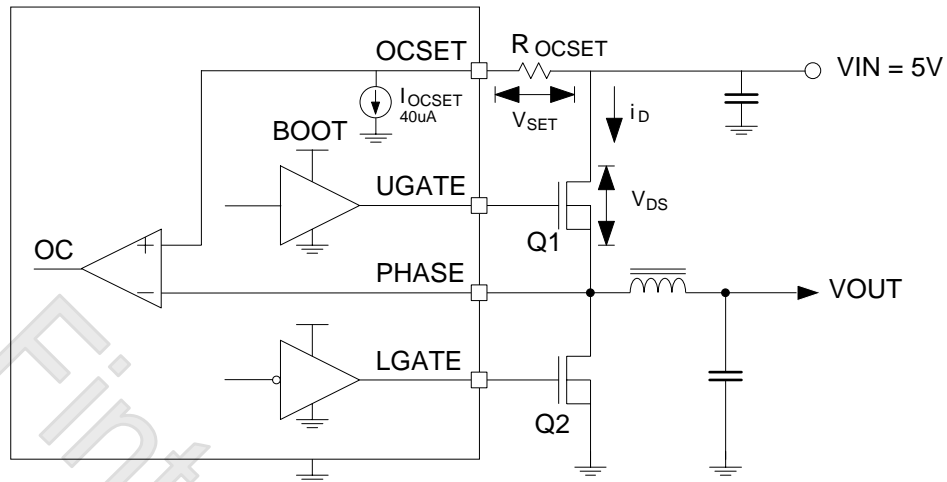

Figure 6
The over current protection function of the F72820 is trigger when the voltage across the RDS (ON) of upper side MOSFET the developed by drain current exceeds over-current tripping level. An external resistor (ROCSET) programs the over-current tripping level of the PWM converter. As show on Figure 6, the internal 40uA current sink develops a voltage across ROCSET that is reference to VIN. The over current comparator detect over current event when UGATE is high and PHASE voltage is under OCSET voltage. When OC be detected, over current protect function will soft start three times and check over current again. If over current event is true, the F72820 will be shut down.